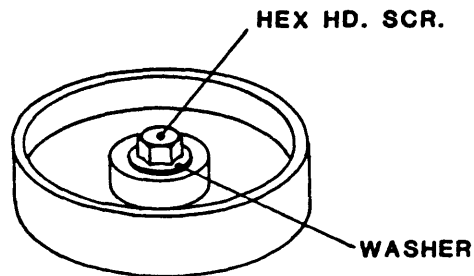

**Figure 4-25 Magnetic Head Assembly**
**4.3.30 MAGNETIC HEAD ASSEMBLY (Figure 4-25)**